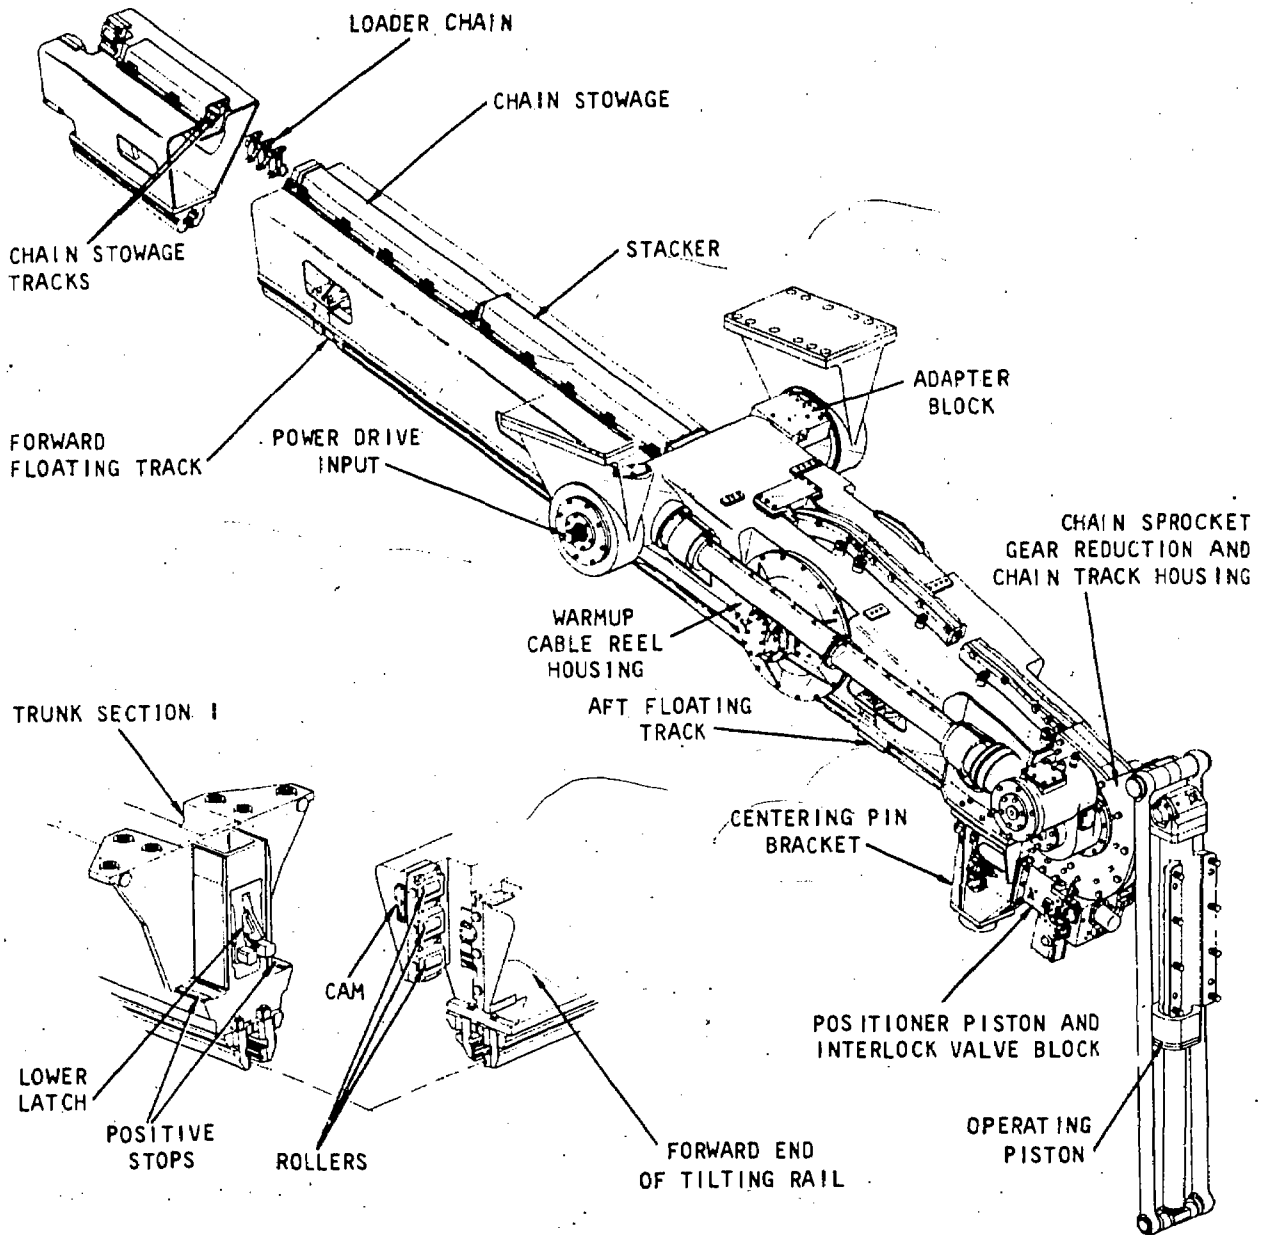

Figure 6-9.—Tilting rail and operating piston.
**TILTING RAIL.**—In mods that have a tilting rail, many of the moving or movable components of the loader are attached to or move in the tilting rail. Figure 6-9 shows the location of the important components on the tilting rail and the operating piston. The tilting rail takes the place of about four and half loader trunk sections in the assembly area. The trunnion supports are mounted in the ship's overhead over the magazine doors. The tilting rail receives the missile round from the hoist, moves it to the assembly area for wing and fin assembly, then tilts to the angle necessary to match the launcher load angle. The operating piston (fig. 6-9) is the unit that elevates or lowers it. Hydraulic power is obtained from the CAB power unit, which is connected at the power drive input. A hydraulic transfer pin (inside the trunnion) distributes the hydraulic fluid to the floating track piston assemblies, the positioner piston and interlock valve block, and the rail-loaded indicator assemblies, through the adapter block mounted on the trunnion (fig. 6-9) neatly.